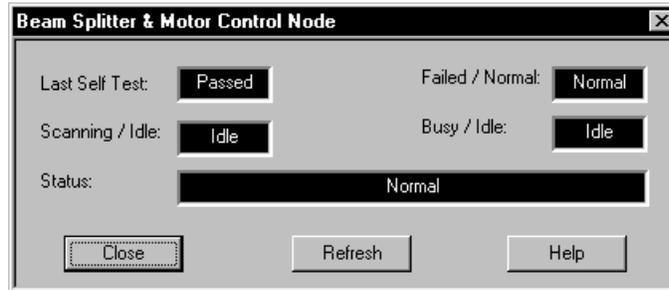

Figure 7-10. Beamsplitter and Motor Control Node.
**Beam Splitter and Motor Control Node**—This icon brings up the Beam Splitter and Motor Control Node window (figure 7-10), which displays the status of the BEAM board.